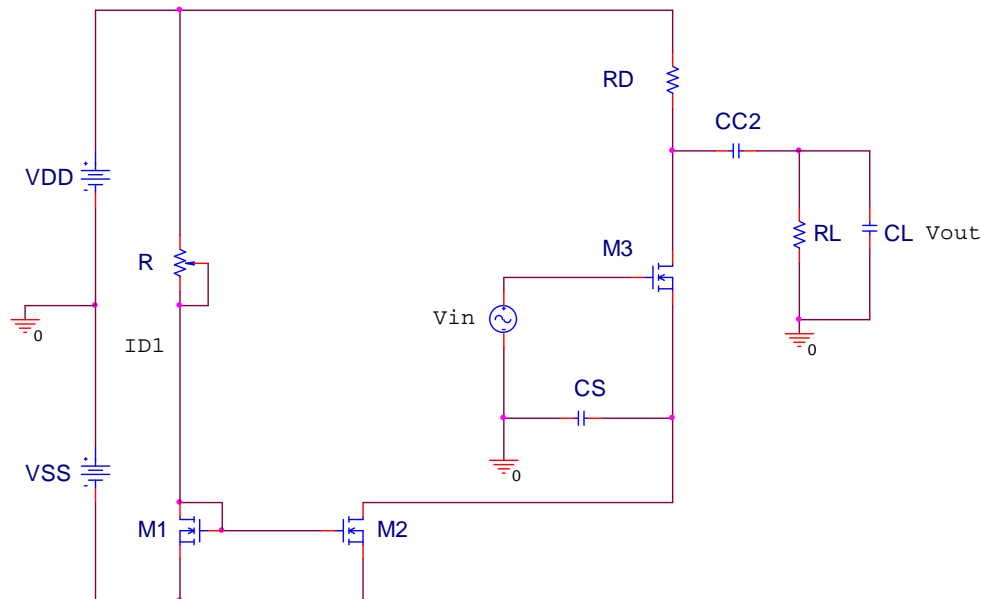

Figure 3.
Lab experiment will be based on current source biased CS amplifier from lab 02 (Figure 3). The parameters are taken from your lab 2 experiment, i.e. bias current is about 250 μ A and R_D is 15 - 20 k Ω . Values of C_S , C_L and R_L will be varied. Frequency response measurements will be performed using oscilloscope and DMM. Note that cables and characterization equipment inputs all have parasitic capacitances that can affect your experimental values.
- 3.4. Sketch the Bode plot of the magnitude frequency response of the CS amplifier from Figure 3. You should obtain something similar to Figure 1b graph. Mark the plot with measured (in lab 02) and calculated (parts 3.1 and 3.3 above) values of midband gain and f_L , f_H , respectively.
4.1. Build the circuit shown in Figure 3 using $V_{DD} = V_{SS} = 5$ V. Select $50\text{ k}\Omega$ potentiometer and adjust it to obtain $250\text{ }\mu\text{A}$ bias current for M3. Use C_S and R_D from lab 02 or prelab. Use no R_L and C_L , i.e. deal with open circuit voltage gain. Use oscilloscope to visualize both input (from function generator) and output sinusoidal waveforms. Obviously, select amplitude of the input waveform low enough not to produce any distortion in output waveform. By measuring amplitudes and relative phases of input and output signal obtain the magnitude and phase frequency responses.